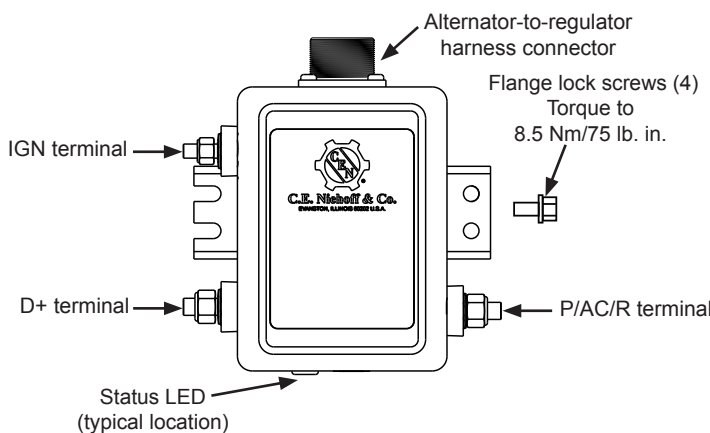

Figure 9: Typical Conventional Voltage Regulator Connections
3. Plug alternator-to-regulator harness into receptacle on regulator. See Figures 9 and 10 for receptacle location.
4. Connect regulator terminals as required by vehicle. Refer to Figures 9 and 10 below: